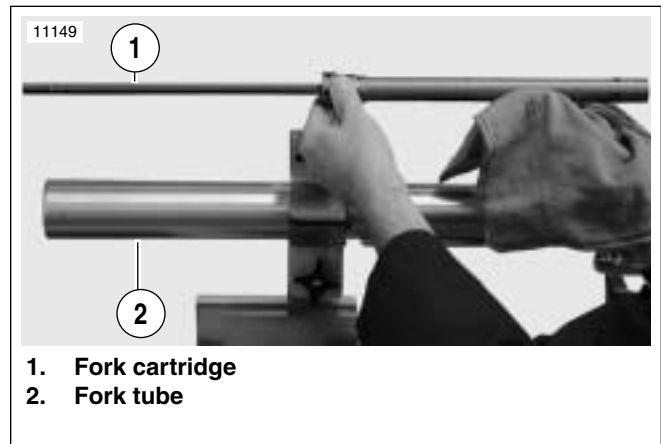

**Figure 2-129. Fork Tube Shown installed In Order of Installation**
1. See Figure 2-129. Use sleeve from fork seal driver and install chrome dust cover (not shown) and components onto fork slider in order shown.